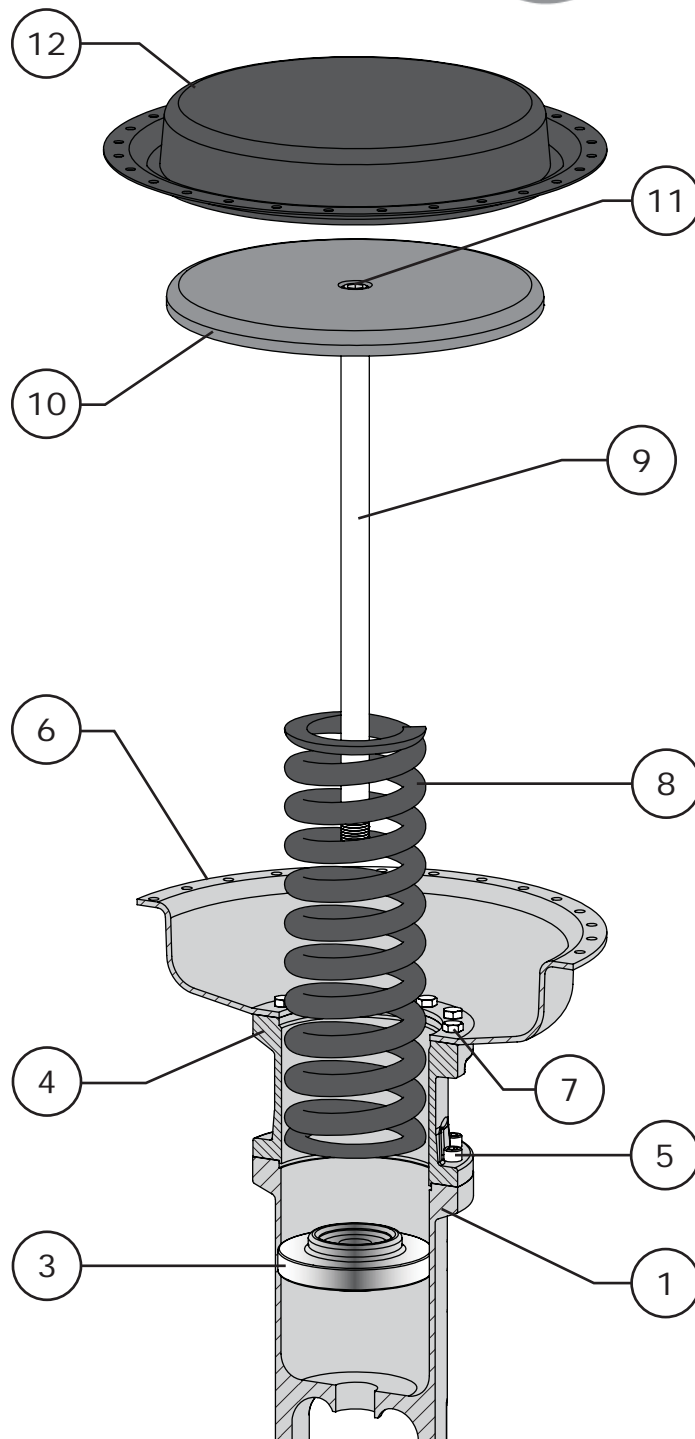

Figure 14 Upper Diaphragm Casing Disassembly Steps 3 to 6
- 4 Remove the diaphragm plate/actuator stem assembly (Keys 9, 10, & 11) from the yoke (Key 1). Refer to Figure 14.